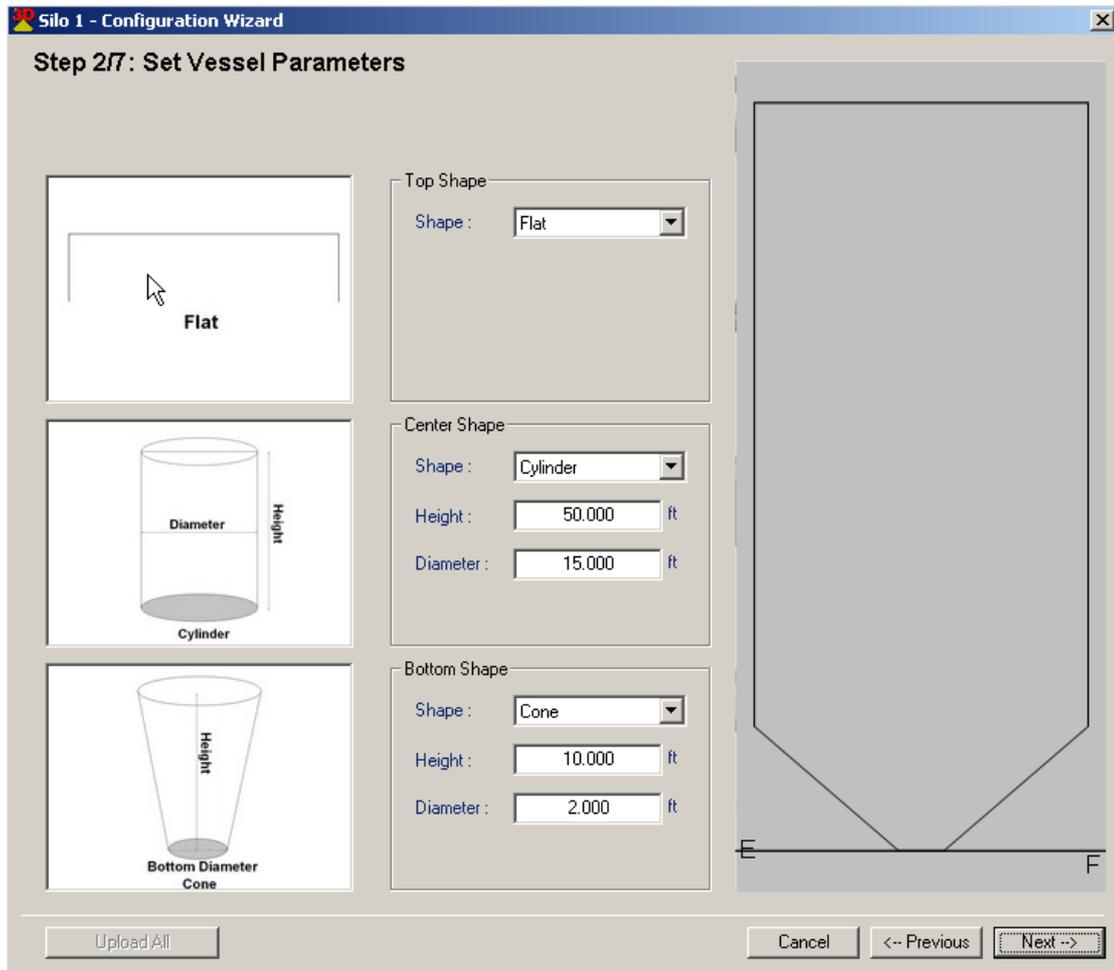

Figure 41 Configuration Wizard – Step 2/7: Set Vessel Parameters
Step 2/7 (Figure 41) configures the vessel geometry with a specific shape, allowing exact volume calculation.